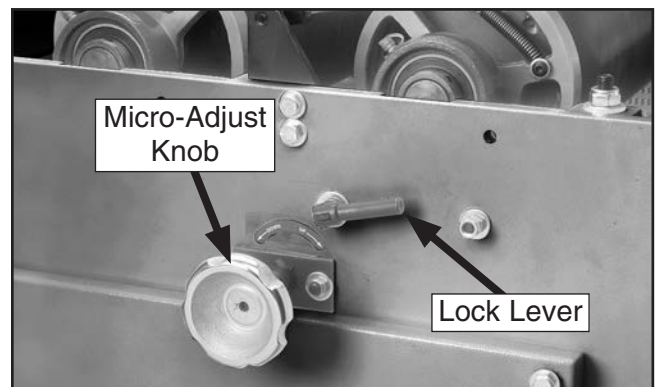

Figure 60. Rear right sanding drum micro-adjusting knob.
5. Loosen the lock lever or lock handle (see **Figures 60 & 61**) at one end of the rear drum.